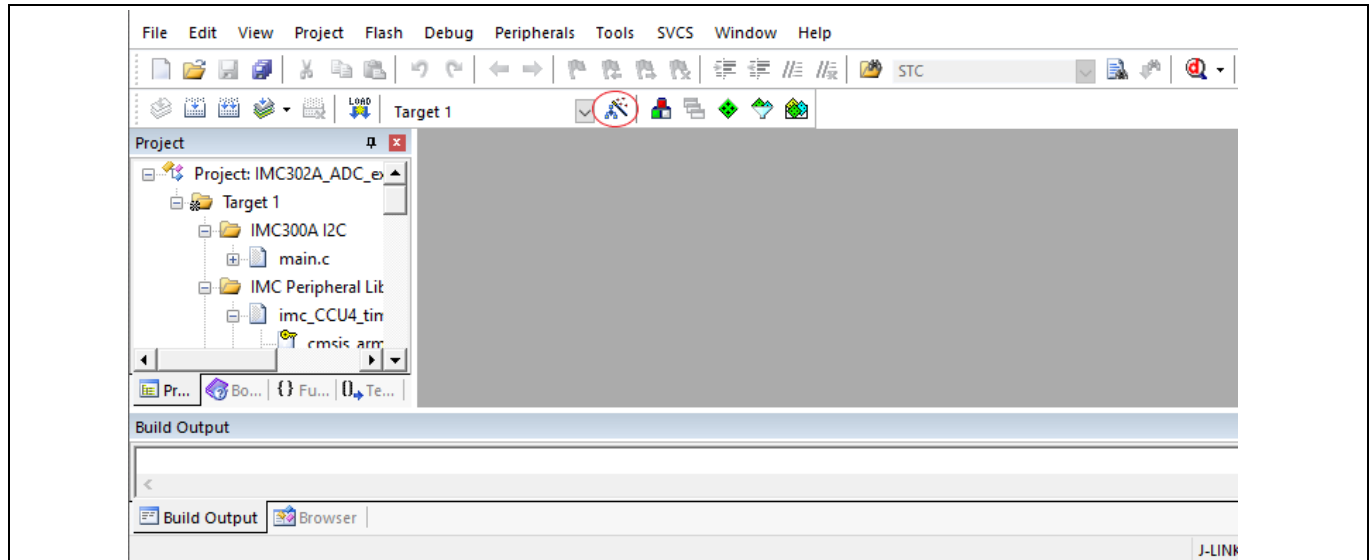

Figure 6 Keil μ Vision® IDE Options for Target
- 3) Select “options for target” next to the “Select Target” dropdown menu as shown in Figure 6.